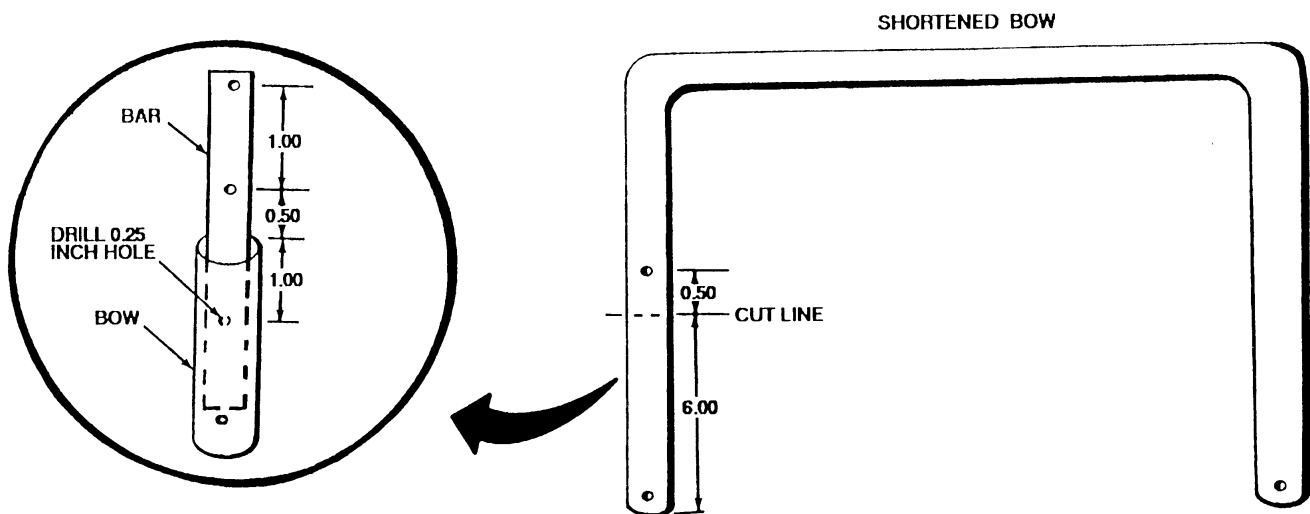

FIGURE 4-2
- (1) Cut through bows 6 inches up from bottom of bows. (see figure 4-2)
- (2) Insert a 6 1/2-7 inch metal bar (depends on wall thickness of bow) into 6 inch piece of bow (leaving bolt hole at bottom clear).
- (3) Drill 1/4 inch hole 1 inch down from top of 6 inch piece of bow. Secure bow and metal bar with capscrew and locknut.
- (4) Butt top portion of bow up against 6 inch piece of bow. Drill 1/4 inch hole through bow and metal bar 1/2 inch up from cut line.
- (5) Remove top portion of bow.
- (6) Measure 1 inch from center of hole. Drill another 1/4 inch hole. Install capscrew and locknut.